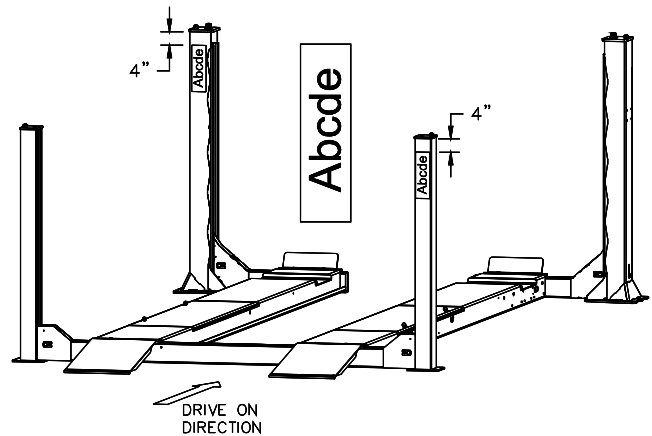

Fig 18 – Decal Placement
- 52) Apply decal 4" from top of columns, **Fig 18.**